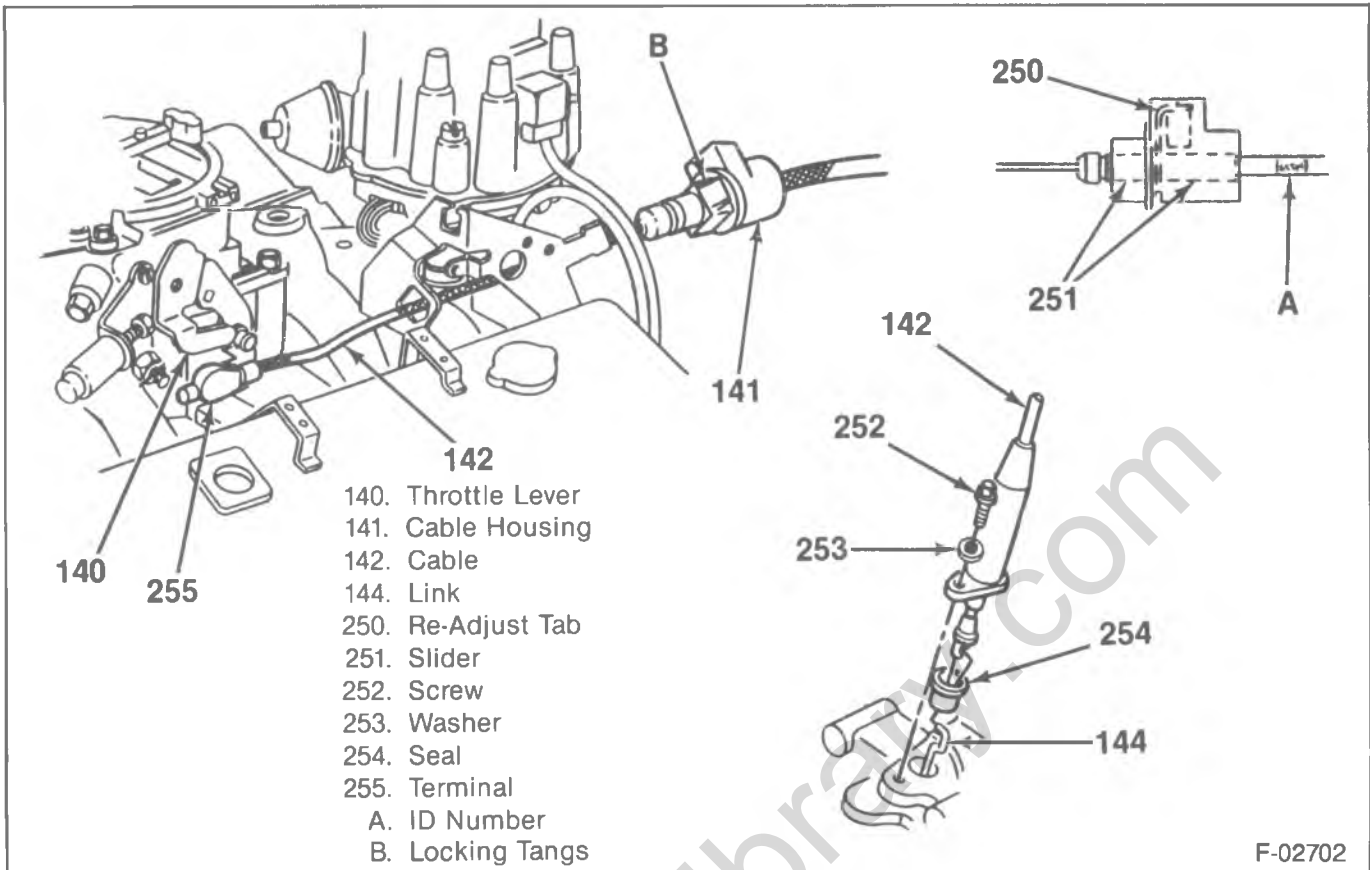

Figure 64—TV Cable (THM 700-R4)
The TV cable operated the TV link (144) and bracket in the transmission (figure 64).
↔ Remove or Disconnect (Figure 64)
→ Install or Connect (Figure 64)
🔧 Adjust (Figure 64)